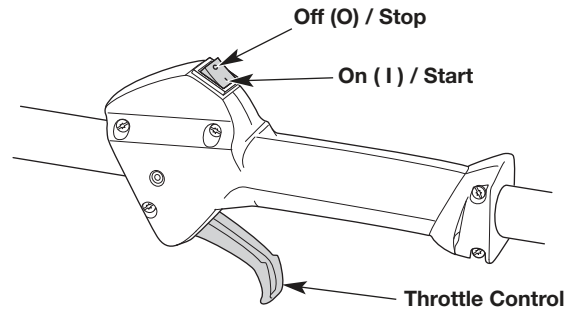
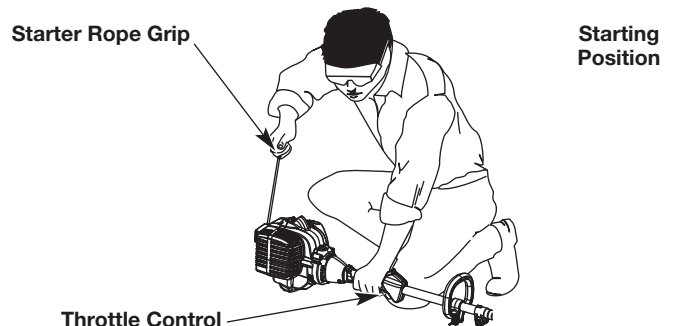

Fig. 8
Fig. 11
WARNING: Avoid accidentally starting the unit. To avoid serious injury, the operator and the unit must be in a stable position when pulling the starter rope (Fig. 11).
NOTE: There is no need to turn the unit on. The On/Off switch is in the ON (I) position at all times (Fig. 8).
5. Crouch in the starting position (Fig. 11).
6. Squeeze the throttle control (Fig. 8) and pull the starter rope with a controlled and steady motion **5 times** (Fig. 11).
2. Press and hold the On/Off switch in the OFF (O) position until the engine comes to a complete stop (Fig. 8).
- NOTE:** There is no need to turn the unit on. The On/Off switch is in the ON (I) position at all times (Fig. 8).
7. Squeeze and hold the throttle control (Fig. 8). Run the electric start accessory for 2 seconds.